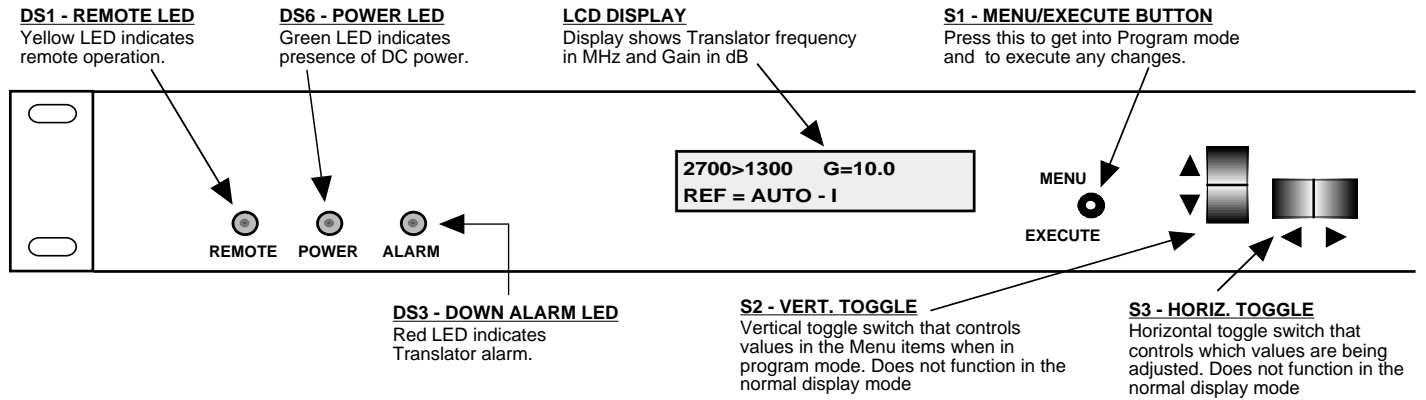

FIGURE 2.3 2083-2813 Front Panel Controls and Indicators
5. Be sure DS6 (green, DC Power) is on and DS (red, Alarm) is off (Figure 2.3).
Alarm indications appear on the LEDs (See figure 2.3).